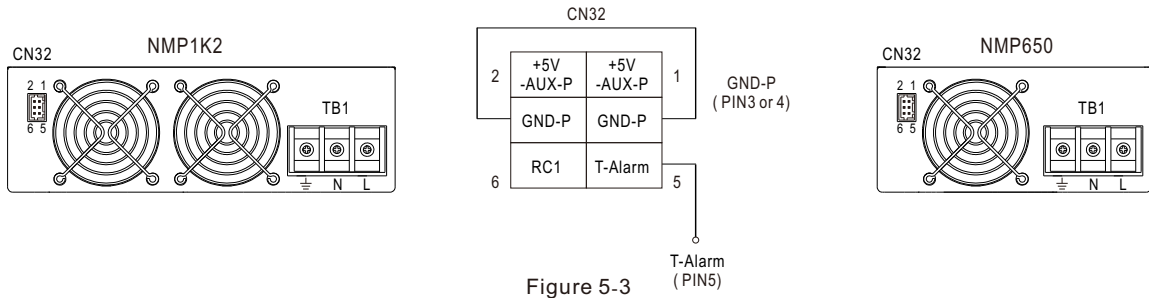

Figure 5-3
- ⊙ Figure 5-3 shows T-Alarm (CN32 PIN5) and GND-PC (CN32 PIN3 or 4) connection diagram.